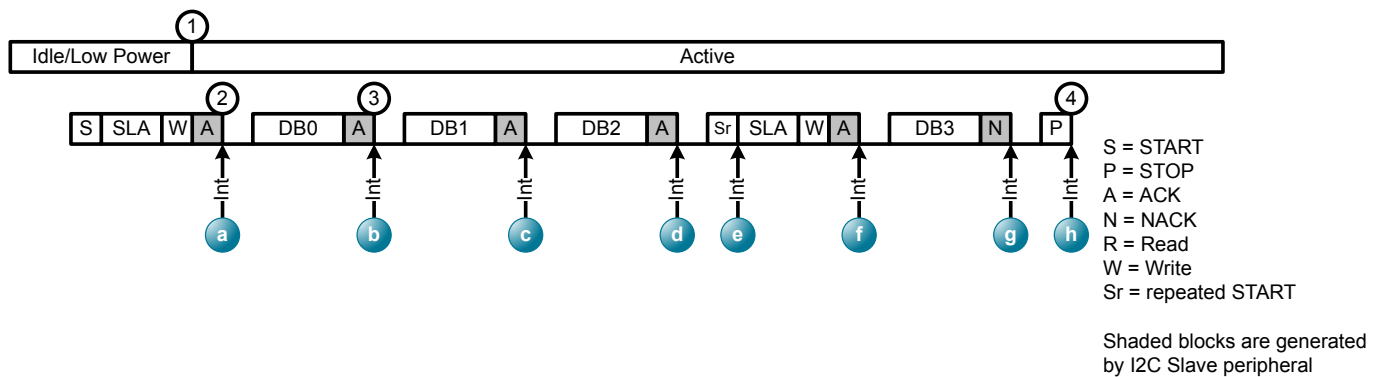
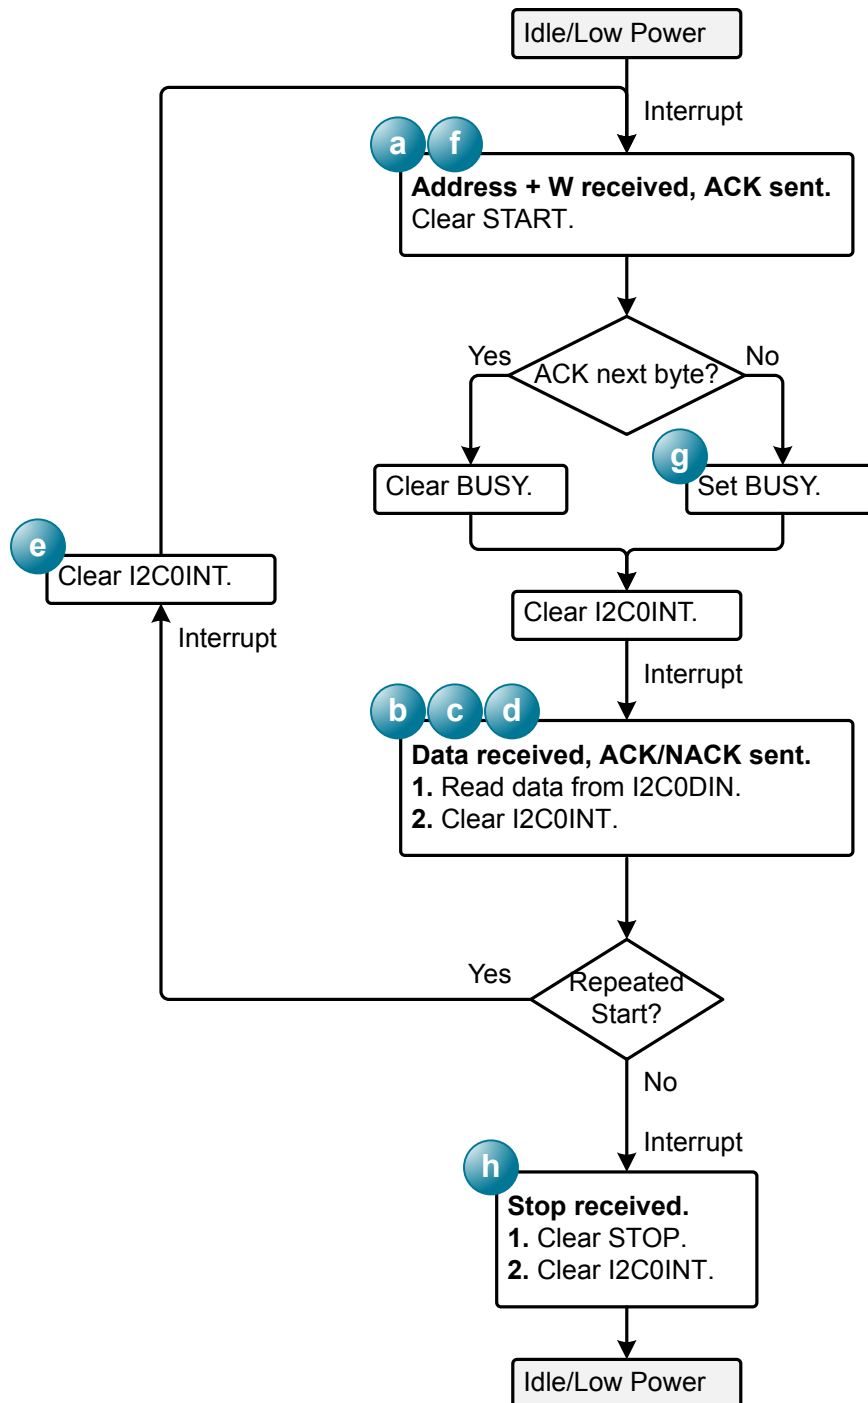

Figure 15.5. Example I2C Write Sequence with the I2C Slave Peripheral
Figure 15.6. I2C Write Flow Diagram with the I2C Slave Peripheral
2. An interrupt occurs after the automatic ACK of the address. The I2C peripheral holds the SCL line low for clock stretching until firmware clears I2C0INT. Firmware should take the actions indicated by Figure 15.6 I2C Write Flow Diagram with the I2C Slave Peripheral on page 164.
Figure 15.5 Example I2C Write Sequence with the I2C Slave Peripheral on page 163 demonstrates an example sequence, including a repeated start, and Figure 15.6 I2C Write Flow Diagram with the I2C Slave Peripheral on page 164 describes the I2C Write sequence and firmware actions in each interrupt.
Note: Firmware can leave the BUSY bit as 0 in step F in the Figure 15.5 Example I2C Write Sequence with the I2C Slave Peripheral on page 163 sequence. In this case, the master will receive an ACK instead at step G could still generate a STOP bit immediately after the ACK.